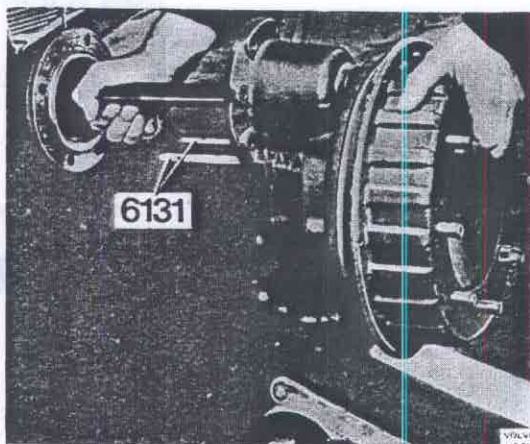

Fig. 46-112. Removing the wheel carrier
6. Remove the bolts and pull out the wheel carrier housing with drive shaft, see Fig. 46-112.